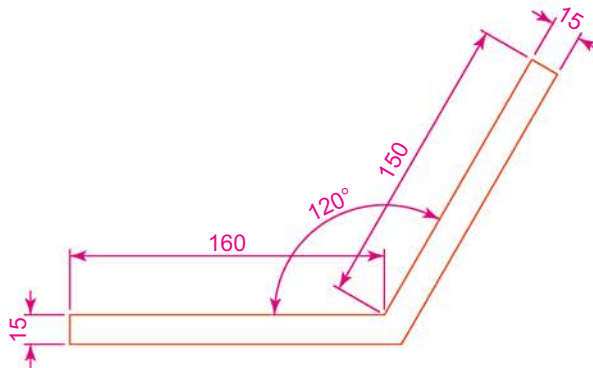

Fig. 18.5 First example – Changing UCS planes – pline for extrusion
1. Set **UCSFOLLOW** to 1 (ON).
3. Construct the pline outline Fig. 18.5 and extrude to 120 high.